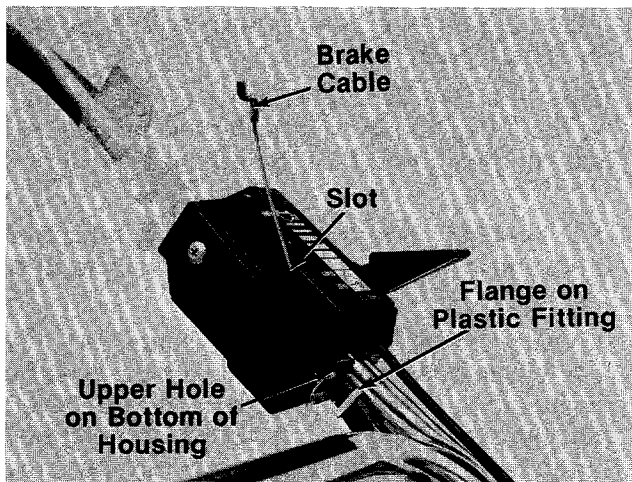

FIGURE 4.
6. Route the brake cable under the lower handle. Place end of cable into the upper hole on the bottom of the control housing, and through the slot as shown. The angle of the flange on the plastic fitting must be positioned as shown in figure 4.